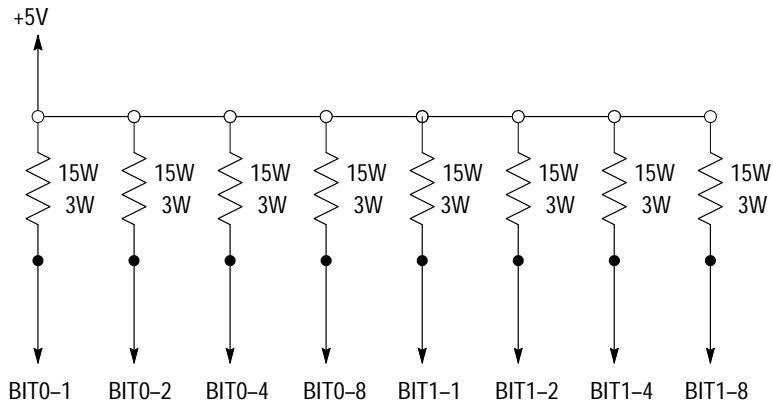

Figure 1-1: Resistor matrix
1. Using the power supply listed in Table 1-1, connect a 15  $\Omega$ , 3 W resistor from +5V of the power supply, to each of the pins as shown in Figure 1-1, and in Table 1-2.